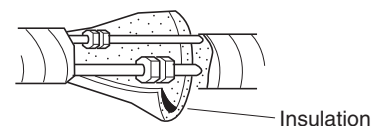

Fig. 3-167
- (1) Pass the tubing and drain hose into the rear of the indoor unit. Provide sufficient length for the connections to be made. Next, bend the tubing with a pipe bender, and connect them. (Fig. 3-167)